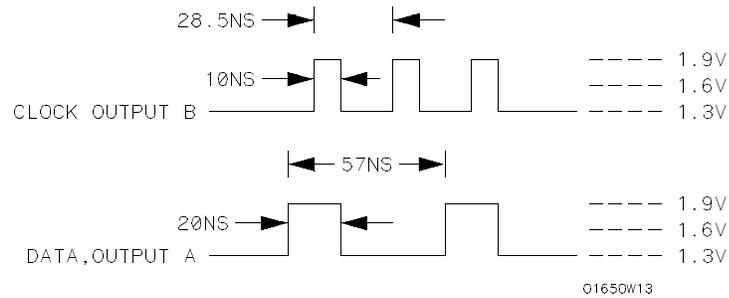

Figure 3-19. Waveform for Data Test 4
2. Adjust pulse generator for the output in figure 3-19. Pulse generator settings are different for HP 1650B and HP 1651B.